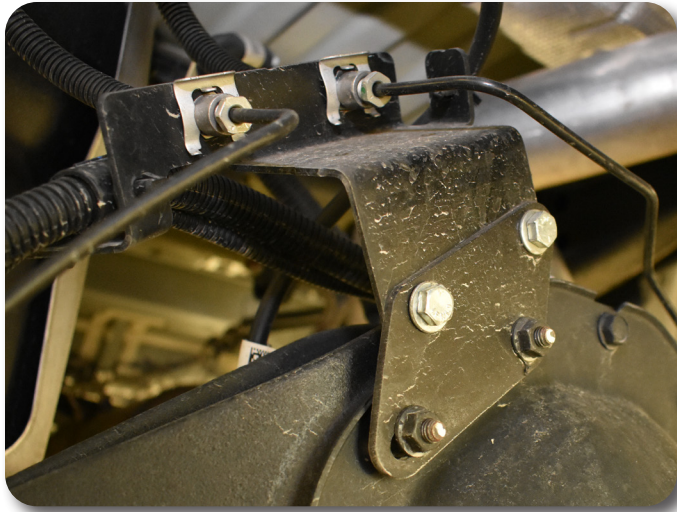

Figure 55
11. Install the rear brake line relocation bracket to the differential using the factory hardware. Using the provided 5/16" hardware attach the rear brake line bracket to the relocation bracket **Figure 55**.